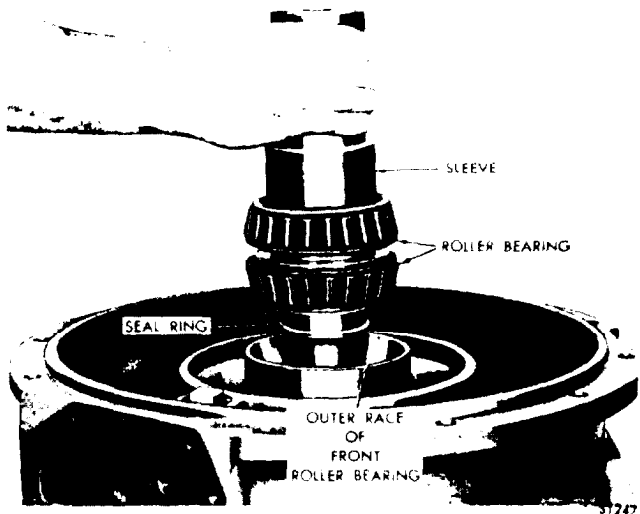

Figure 4C-19. Removing (or Installing) Output Shaft
12. Install the lock washer, seal ring and square head plug into the oil pump idler gear shaft bore (see Figure 4C-20). Torque the plug to 80-100 ft-lbs.